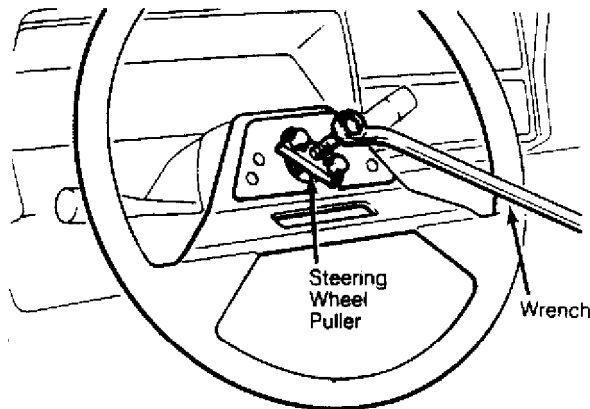

Fig. 8: Removing Steering Wheel (Typical)
4) Remove steering wheel retaining nut and washer. Mark steering wheel and shaft for reassembly reference. Using a steering wheel puller, remove steering wheel. See Fig. 8.